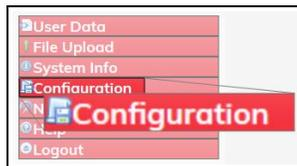

Figure 285: Configuration link
4. On the **Menu** list, click the **Configuration** link. Figure 285